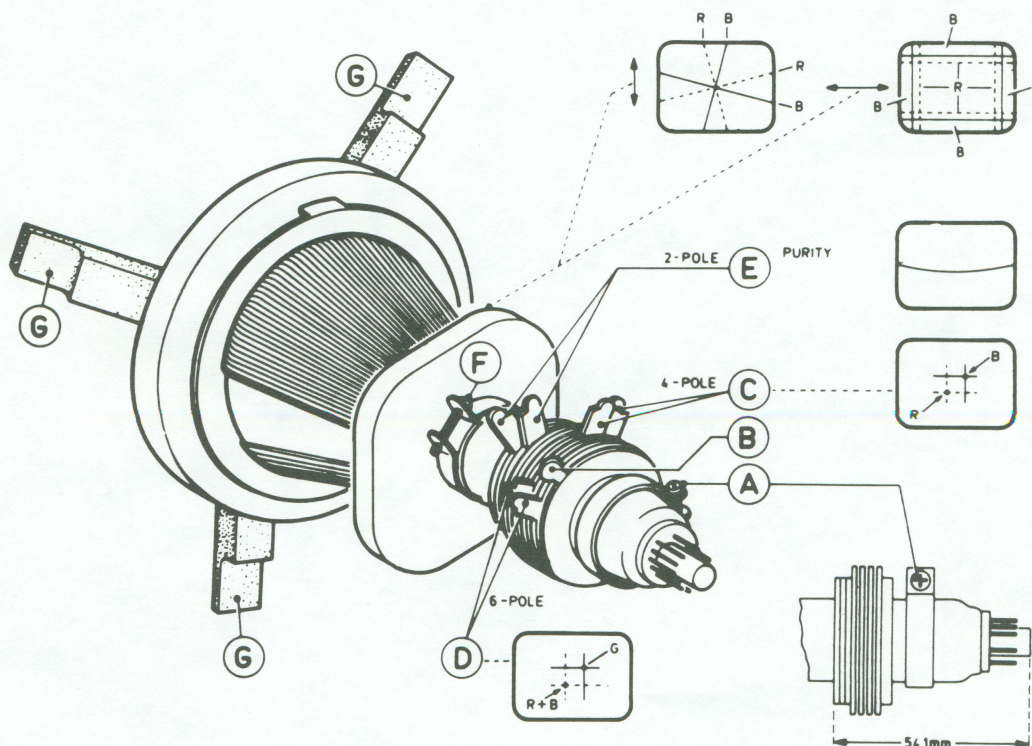

Fig. 1
**Color Purity adjustment (Refer to Figure 1)**
2. Remove the rubber wedges (G) and slide the yoke forward until it rests firmly against the bell of the CRT.
4. Place the multi-pole Purity and Convergence Assembly in the position shown in Figure 1.
5. Tighten screw (A) and turn securing ring (B) counterclockwise. Position the unit so that it faces in an East/West direction and degauss the instrument.
9. Adjust the Two-pole purity rings (E) to center the red vertical and horizontal lines.
11. Turn on the green and blue guns by reconnecting R728 and R735. If a uniformly white raster does not appear, minor adjustments may be made by adjusting the purity rings (E).